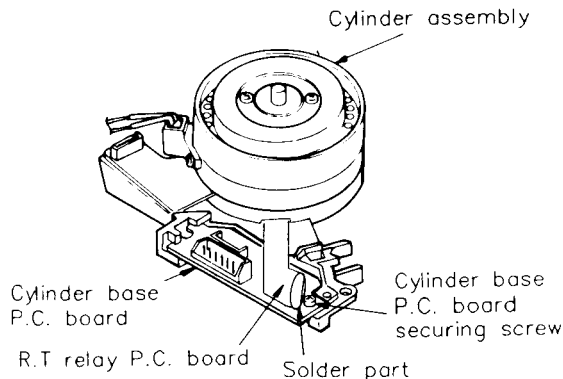

Fig. 4-2-5 Relay P.C. board and cylinder base P.C. board
2. Remove the cylinder base P.C. board securing screw (Fig. 4-2-5).